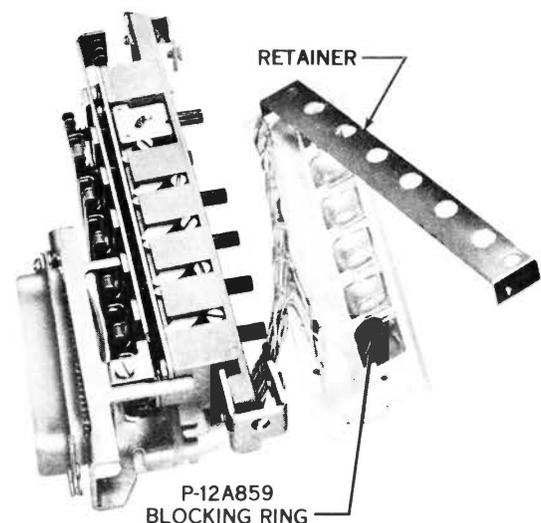

Fig. 8 — Method of Placing Blocking Ring
3.09 To place P-12A859 blocking ring in key (Fig. 8) :
- (1) Remove bezel assembly.
- (2) Remove housing assembly.
- (3) Remove key.
- (4) Remove lamp block assembly (Fig. 8).
- (5) Remove button retainer.
- (6) Place blocking ring over plunger.
- (7) Replace button retainer and lamp block assembly.